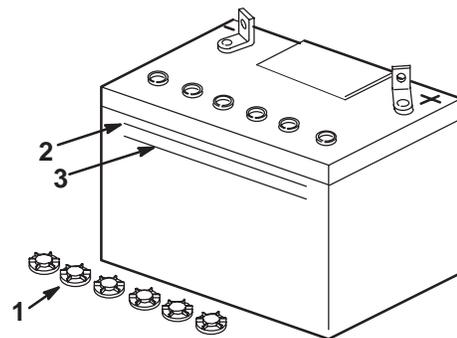

Figure 2
3. Remove the vent caps from the battery (Fig. 2).
4. Slowly pour electrolyte into each battery cell until the level is up to the upper line (Fig. 2) on the battery case.
5. Wait five to ten minutes after filling the battery cells. Add electrolyte, if necessary, until the electrolyte level is up to the upper line (Fig. 2) on the battery case.